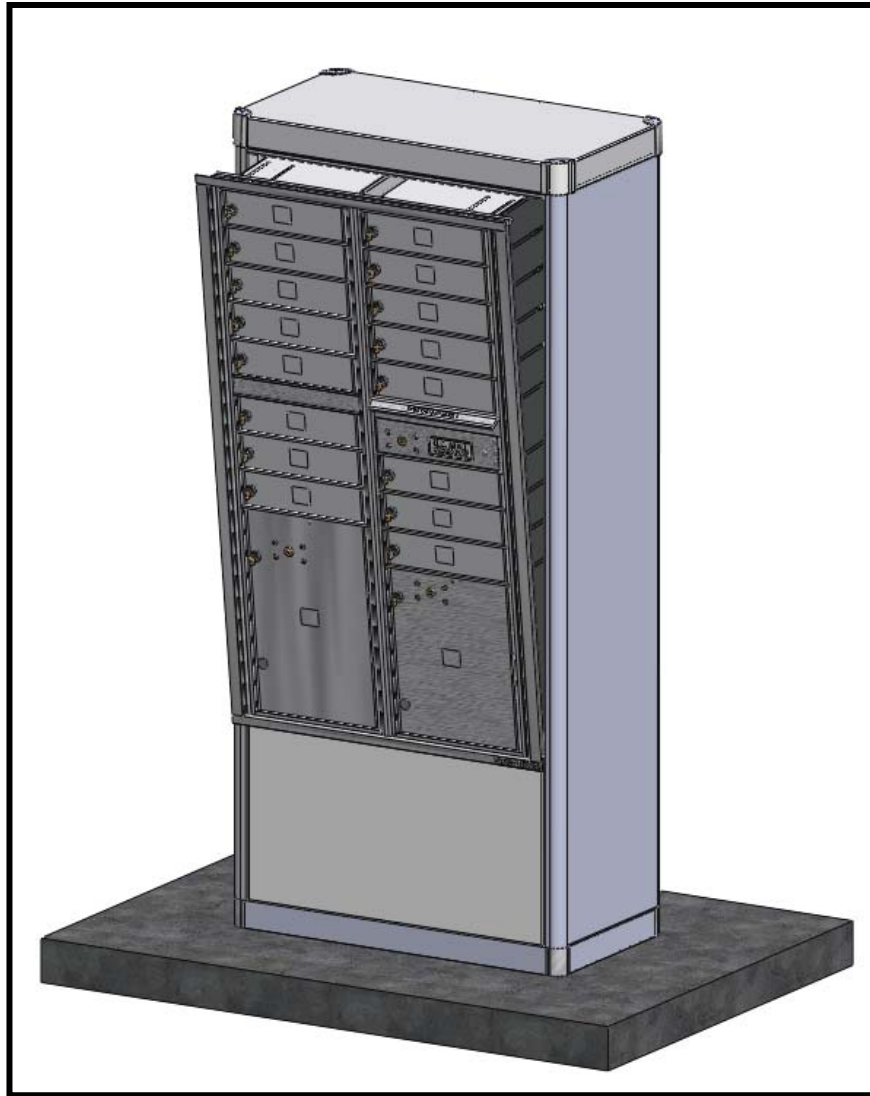

Figure 16 – Installation of versatile™ module
- a) Place the bottom of the versatile™ module into the DEPOT™ as shown in *Figure 16*.